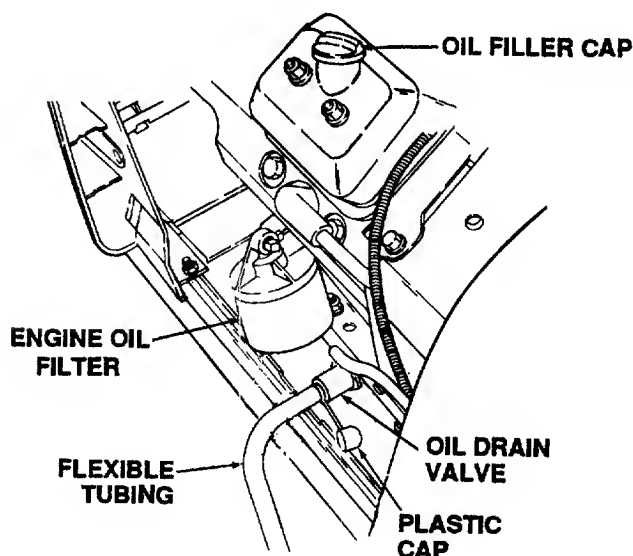

Figure 22
The oil filter is located behind the left side panel and is mounted on the engine (See Figure 22).
3. Unseat the plastic dust cap from the engine oil drain valve. To prevent loss of the cap, do not remove the cap's retaining ring from the drain valve (Refer to Figure 22). Remove the dipstick.